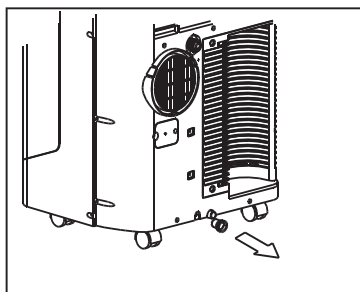

Fig.25
- When the water level of the bottom tray reaches a predetermined level, the unit beeps 8 times and the digital display area shows "P1." At this time the air conditioning/dehumidification process will immediately stop. However, the fan motor will continue to operate (this is normal). Carefully move the unit to a drain location, remove the bottom drain plug and let the water drain away. (See Fig. 25.) Restart the machine until the "P1" symbol disappears. If the P1 symbol will not clear after following the above instructions and waiting a few minutes after restarting the machine, call customer service.
- Remove the plug from the bottom drain outlet; all the water in the bottom tray will drain out. (See Fig. 25.)